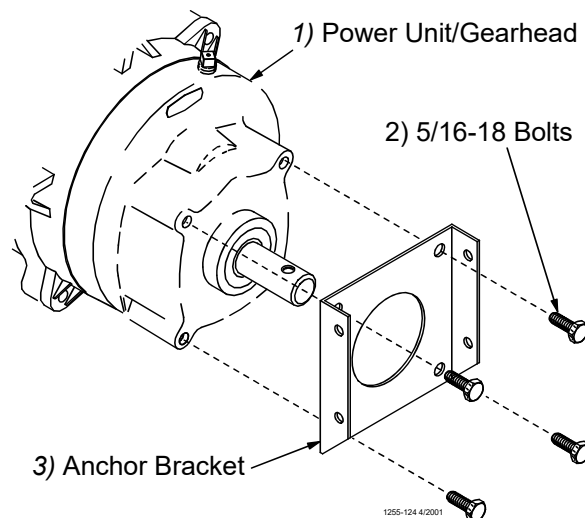

Figure 31. Assemble the Anchor Bracket to the Power Unit/Gearhead
3. Install the Anchor Bracket to the Power Unit/Gearhead, as shown in **Figure 31.**, with the included 5/16-18 Bolts.